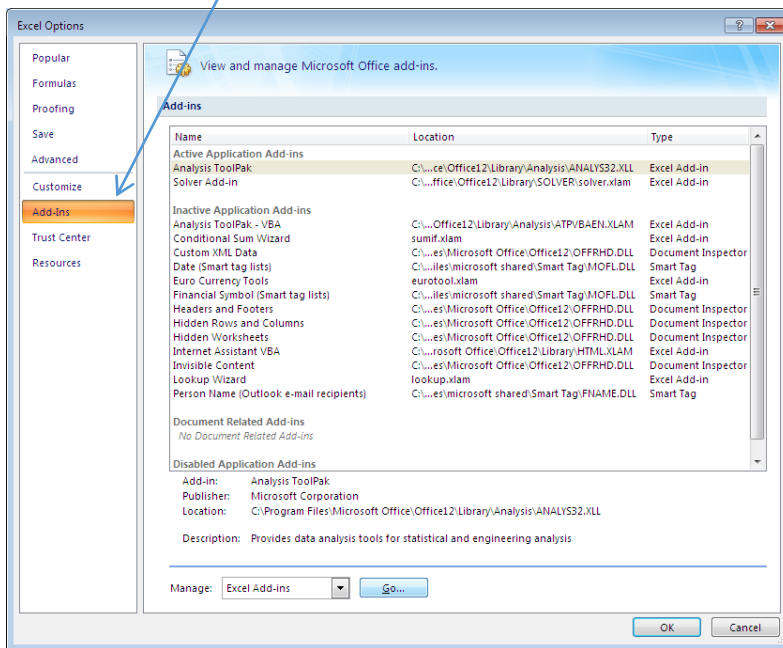

Figure 7
2. Click the **Add-Ins** category (Figure 7).
3. In the **Manage** box, click **Excel Add-ins**, and then click **Go** (Figure 7).